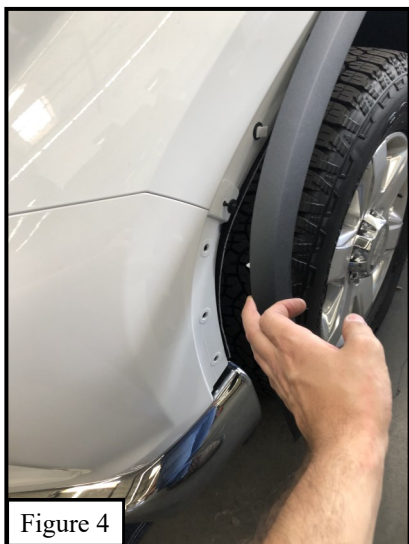

Figure 4
5. Pry off fenders to access the filler panel clips. See **Figure 4**.